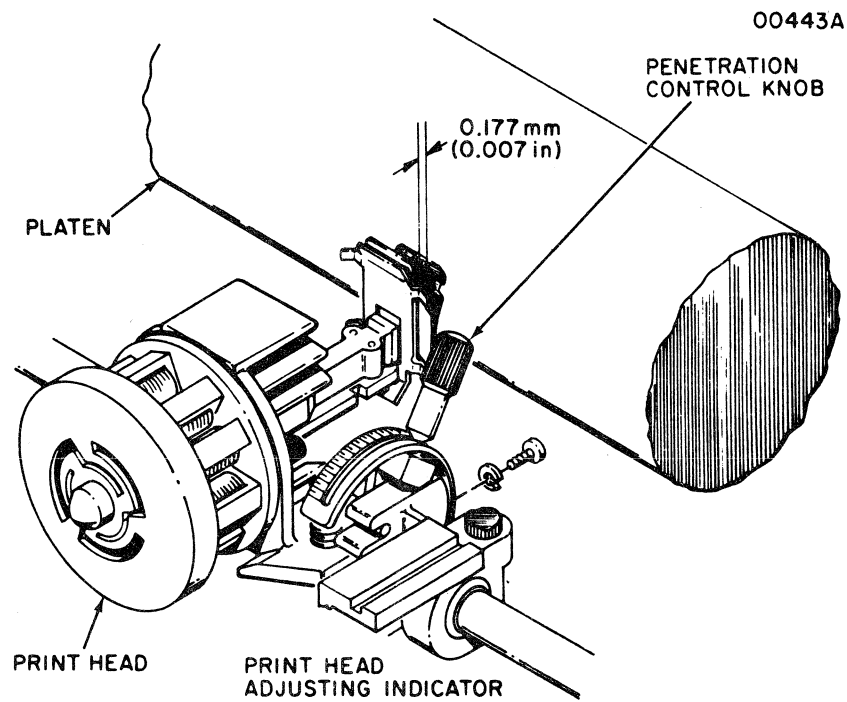

Figure 3-3. PENETRATION CONTROL ADJUSTMENT, PRINT HEAD ASSEMBLY
1. Print Head Penetration (Refer to Figure 3-3)